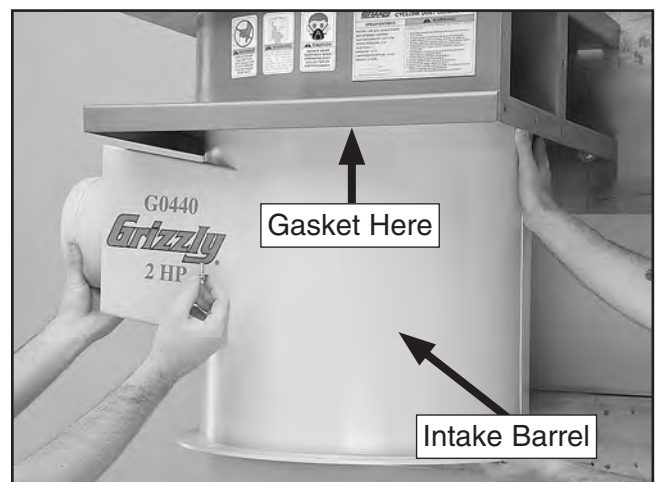

Figure 13. Example of securing blower on intake barrel.
5. Temporarily attach the intake barrel to the housing with a barrel gasket in between, as shown in **Figure 13**, using (4) $\frac{5}{16}$ "-18 x $\frac{3}{4}$ " hex bolts and (4) $\frac{5}{16}$ " flat washers—and only snug the bolts, rather than fully tighten them.
- Use the (12) $\frac{5}{16}$ "-18 x $\frac{3}{4}$ " hex bolts and (12) $\frac{5}{16}$ " flat washers to re-install the intake barrel to the housing with a barrel gasket in between (see **Figure 13** on **Page 19**).